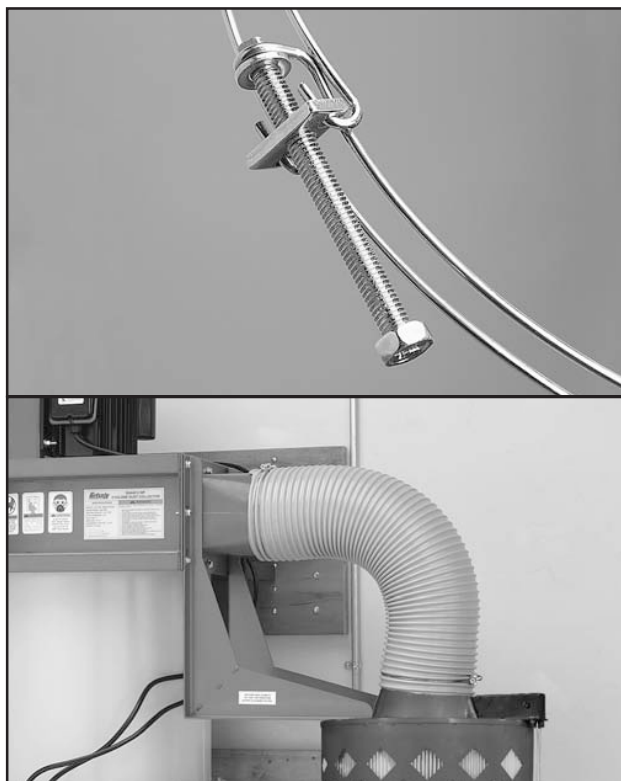

Figure 27. Gray hose properly installed (Model G0440/G0443).
- b. Connect the gray flexible hose from the outlet port to the canister adapter and secure it in place with the two 8" hose clamps, as shown in **Figure 27**.